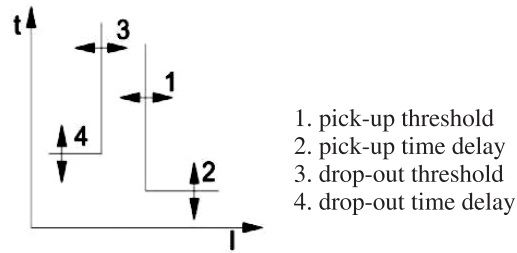

Fig. 6 Alarm operating principle
As shown in Figure 6: the alarm will be initiated when the earth current is greater than the pick-up threshold setting (1) and for a duration longer than the pick-up time delay (2). The ground alarm DO is operated.